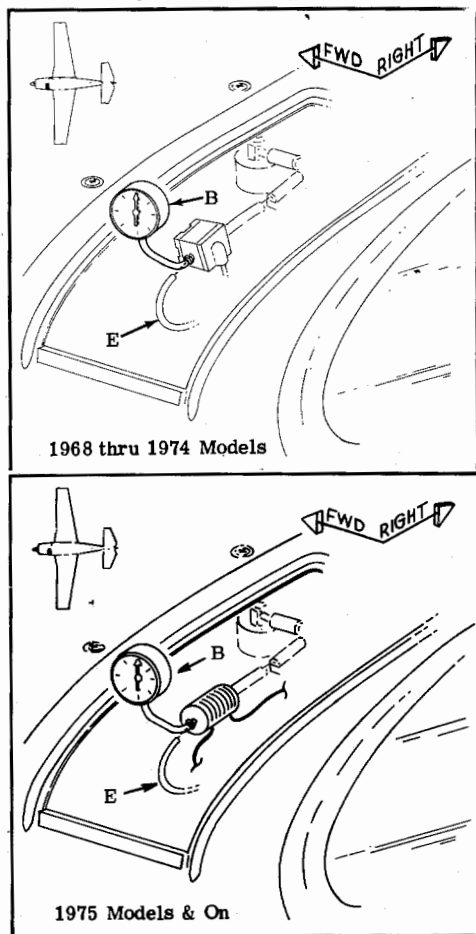

Figure 6-18. Pilot Valve Test
8. To check pilot valve operation on 1968 thru 1974 models, disconnect gray line (E), Figure 6-18, on sequenced vacuum side of pilot valve and connect a 0 to 10 IN. Hg vacuum gage (B). Apply vacuum and leave cutoff valve in normal position (closed); gage should read 4.0 + IN. Hg with primary vacuum at 5 IN. Hg as obtained in step 4. To check electric dump solenoid valve on 1975 models and on, disconnect black line (E), Figure 6-18, on sequenced vacuum side of electric dump valve and connect a 0 to 10 IN. Hg vacuum gage (B). Apply vacuum and leave cutoff switch in normal position; gage should read 4.0 + IN. Hg with primary vacuum at 5 IN. Hg as obtained in step 4.